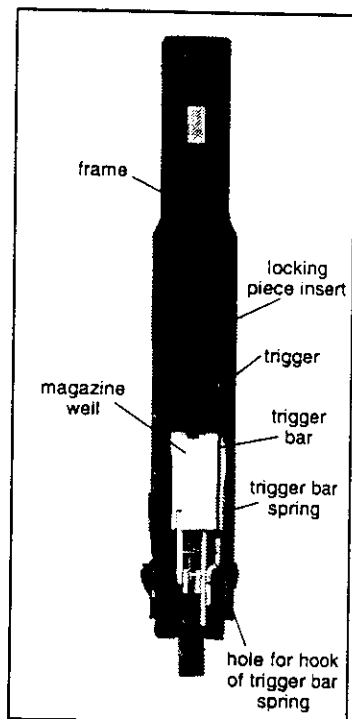

Figure 17
1. Insert trigger (55) into the frame through the trigger guard. Push up on the trigger and insert the stud on the front of the trigger bar (23) into the hole in the upper right extension on the trigger from right to left.
2. Align the trigger pin hole in the frame and install the trigger pin (56) FROM LEFT TO RIGHT.
3. Drop the rear end of the trigger bar (23) down into the frame.
4. Feed the free (straight) end of the trigger bar spring (24) between the trigger bar (23) and right side of the frame (see Fig. 17).
5. Push down on the rear of the trigger bar and insert the free end of the trigger bar spring (24) into the hole located on the right side of the frame inside the magazine well.
6. Check for spring tension and free movement of the trigger bar (23) by pushing down on the trigger bar and pulling the trigger several times.
- (42) Hammer Strut